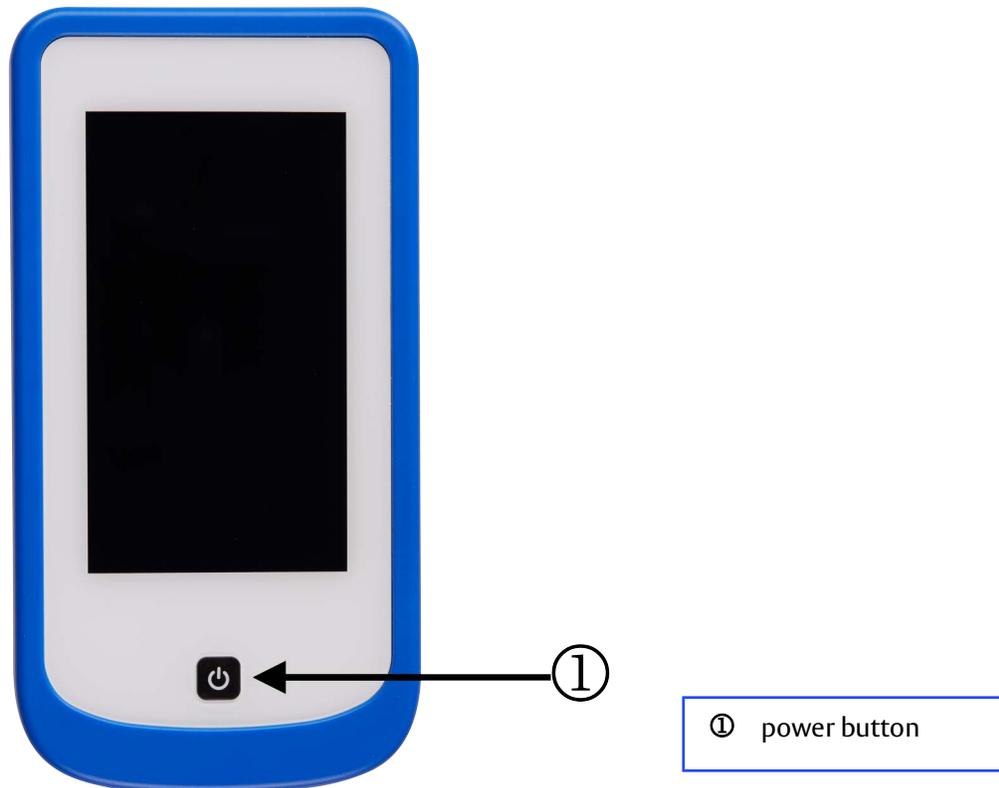

Figure 3-1 HemoSphere Stream™ Module front view
To power the module off, touch the power button. See ① in Figure 3-1 on page 22. The following option will be displayed: